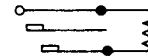

Fig. 11—416A or B Plug
**2.11 416A and B:** The 416A and B plugs (Fig. 11) have three conductors and are equipped with a long black shell. The 416A and B plugs have two resistors in series, between the tip and sleeve, and are not designed for cord or cable connections. These plugs are used in the L3 Carrier System at equalizing auxiliary repeaters, or at terminal main repeaters operating on constant current.